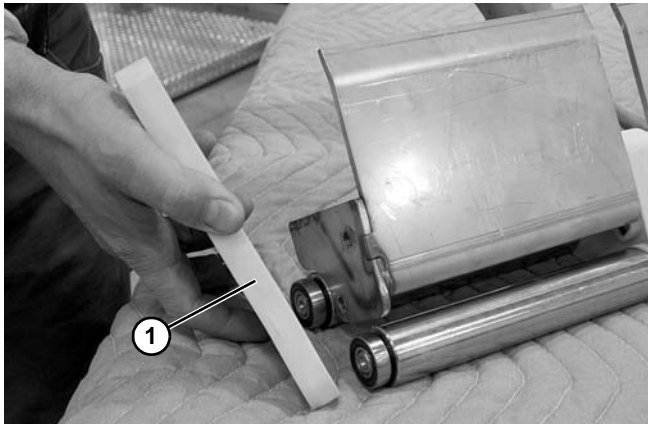

Figure 90
- Slide off end plate (**Figure 90, item 1**).